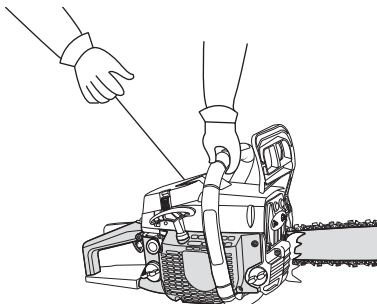

Fig. 9
- 3- Place the unit on a firm, flat surface. Crouch in the starting position and hold the unit firmly, as shown (Fig. 9). Grip the front handle firmly with the left hand. Place the right foot through the rear handle/ boot loop.